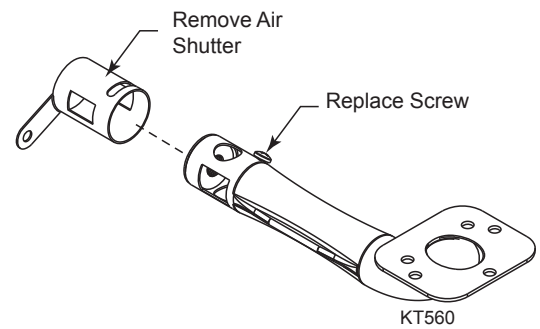

Figure 77 - Remove Air Shutters - Conversion to LP
13. **For conversion to LP:** Unscrew three (3) air shutters through lens opening and discard. Figure 77. **NOTE:** Replace screws.